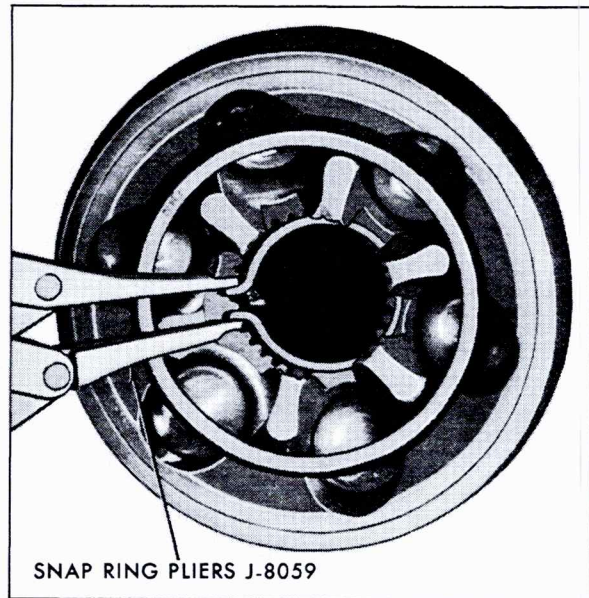
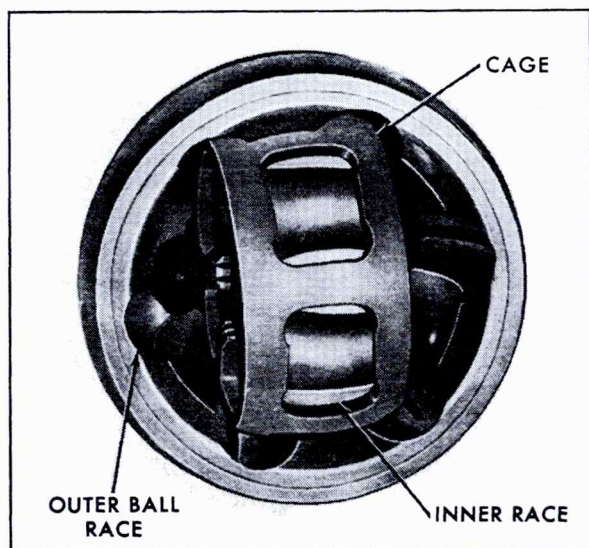

Fig. 3-61 Removing and Installing Inner Snap Ring
Fig. 3-63 Removing Cage and Inner Race
5. Remove inner race snap ring as shown in Fig. 3-61.
8. Turn cage 90° as shown in Fig. 3-63 with slot in cage aligned with short land on outer race and lift cage out with inner race.
3. Align inner race as shown in Fig. 3-63 and pivot inner race 90° to align in outer race as shown in Fig. 3-61.
7. Install snap ring into inner race as shown in Fig. 3-61.